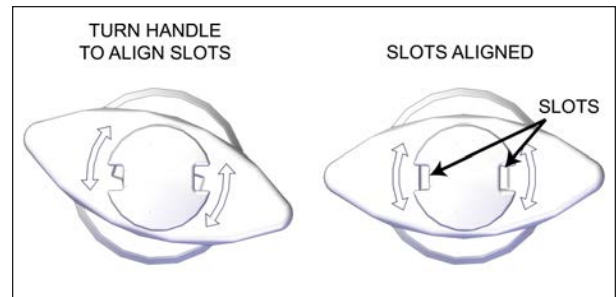

FIGURE 72: ALIGN THE SLOTS
2. Turn the red handle left or right to align the slots located in the center part of the handle, see Figure 72.